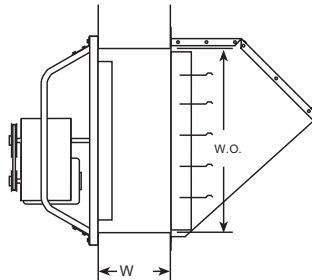

**Figure 4 — Placing Birdscreen in Assembled Weather Hood**
- Slide the birdscreen into the bottom of the assembled weather hood through the openings on the underside. See Figure 4. Place birdscreen in the frame and rest on the flanges on each side. Fasten screen to each side using the 5/8" length sheet metal screws.